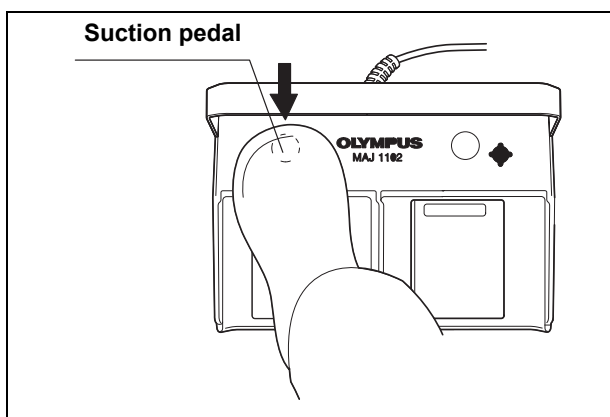

Figure 6.6
6. To perform suction in the laparoscopic suction mode, immerse the probe tip in the liquid to be removed. Press the suction pedal on the foot switch (MAJ-1102) to activate suction (see Figure 6.6).